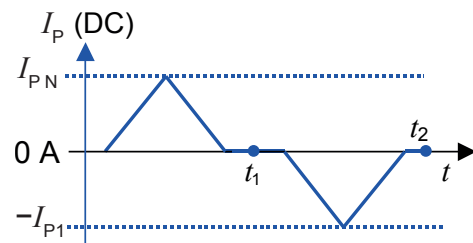

Figure 27: Current cycle used to measure magnetic and electrical offset (transducer supplied)
- or in a known magnetization state, like in the current cycle shown in figure 27.
Using the current cycle shown in figure 27, the electrical offset is: